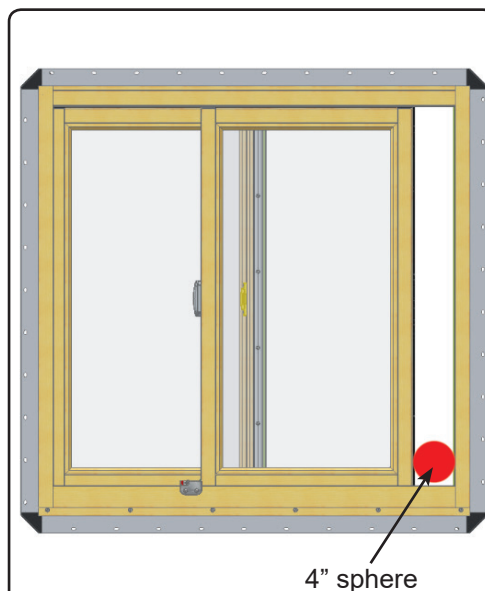

Figure 1
- The window opening control device must be installed in such a manner that after it is installed and engaged, no space shall exist at the lowest opening portion of the window opening that would permit the passage of a rigid sphere measuring 4" (102) in diameter. See figure 1.
1. Unlock window and slide sash to open limit. See Figure 1.